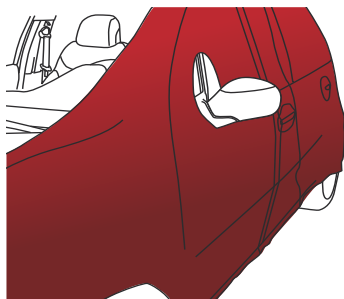

Fig.23
- › The film is now stretched over the total surface area to be wrapped. You can apply the film (FIG. 23) according to the type of surface.